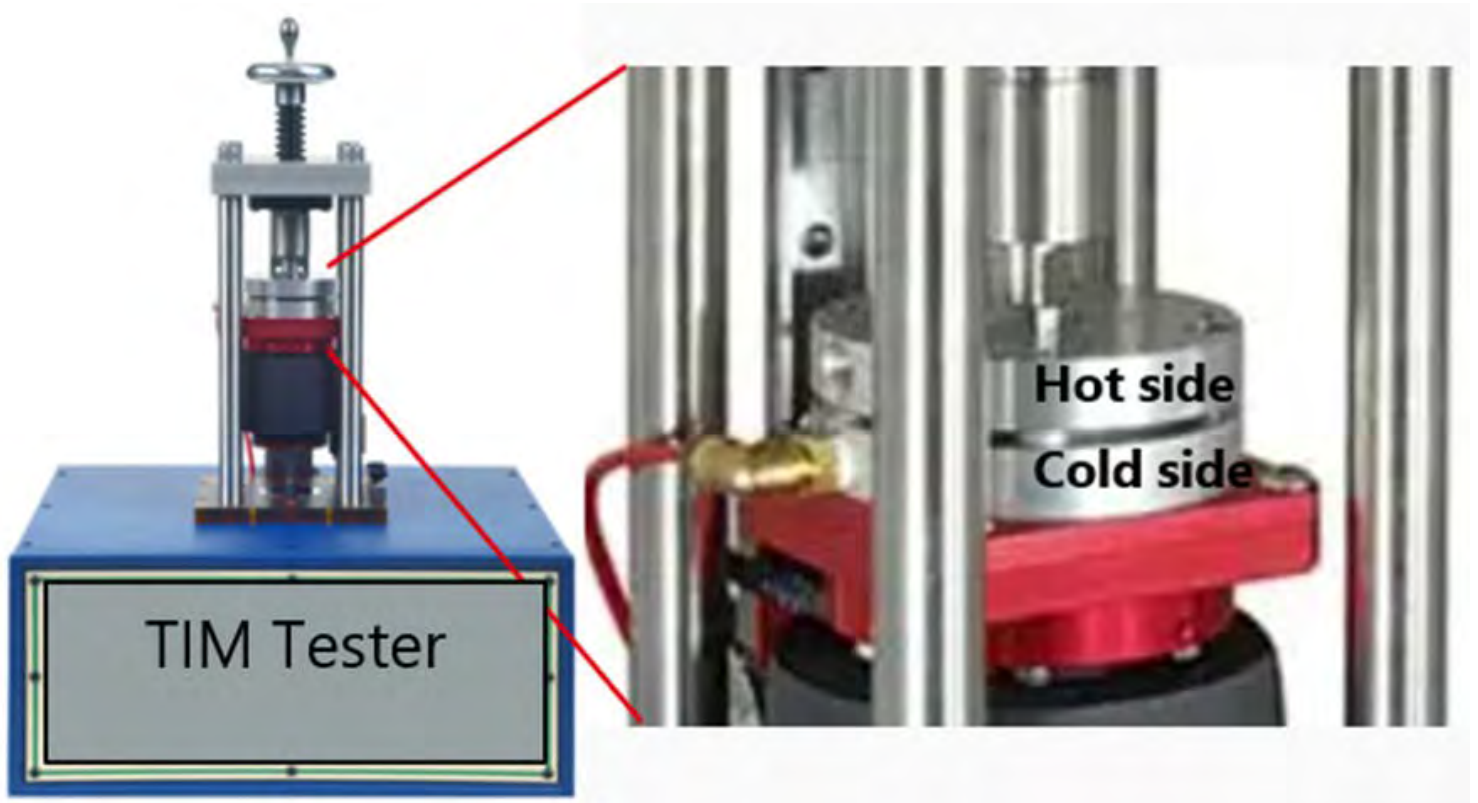
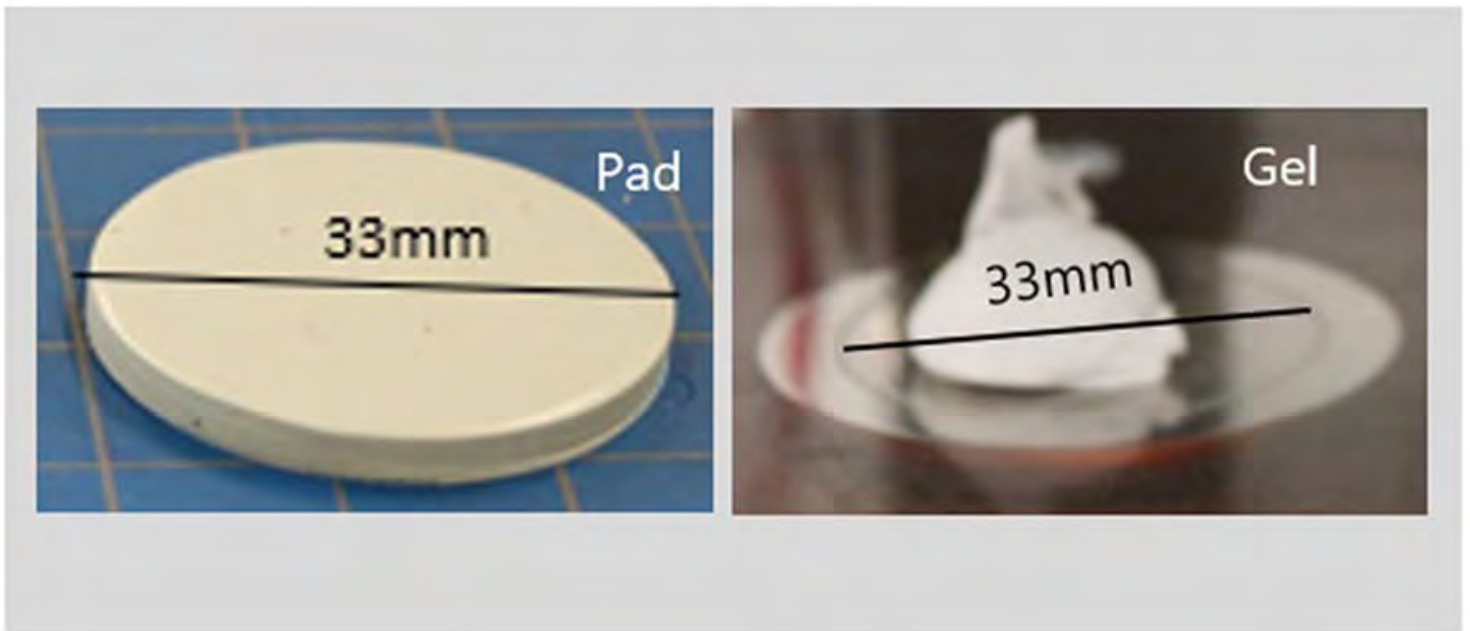

Figure 5. Test equipment.
Figure 6. Test specimen examples.
**FIGURE 5** shows the equipment used in this study. Gap pad samples were cut to a diameter of 33mm (1.3"). Liquid samples are applied to the tester with a measured volume to achieve desired thickness with a diameter of 33mm (**FIGURE 6**). The TIM tester has a built-in thickness measurement system that accurately measures and records the thickness of each sample.
Results from this study clearly demonstrate the bond line thickness effect on the overall thermal performance. Figures 6 and 7 show that regardless of the TIM type, pad or gel, thinner bond line provides lower impedance and higher effective thermal conductivity.